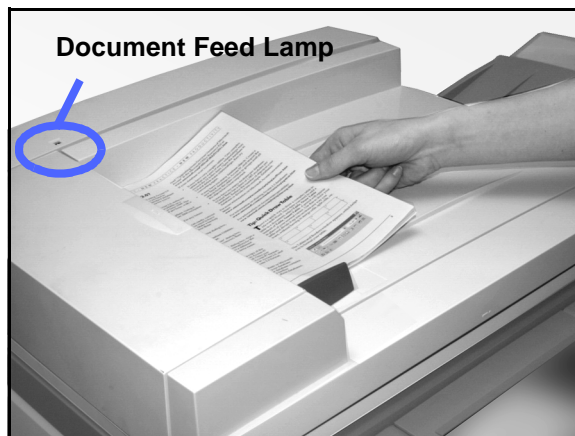

Figure 21: Placing a document in the DADF Feeder Tray
- If you are using a Duplex Automatic Document Feeder, place the document face up into the DADF Tray, as in Figure 21. The Document Feed Lamp lights when the document is in the correct position. Ensure that the paper guide is against the original document.